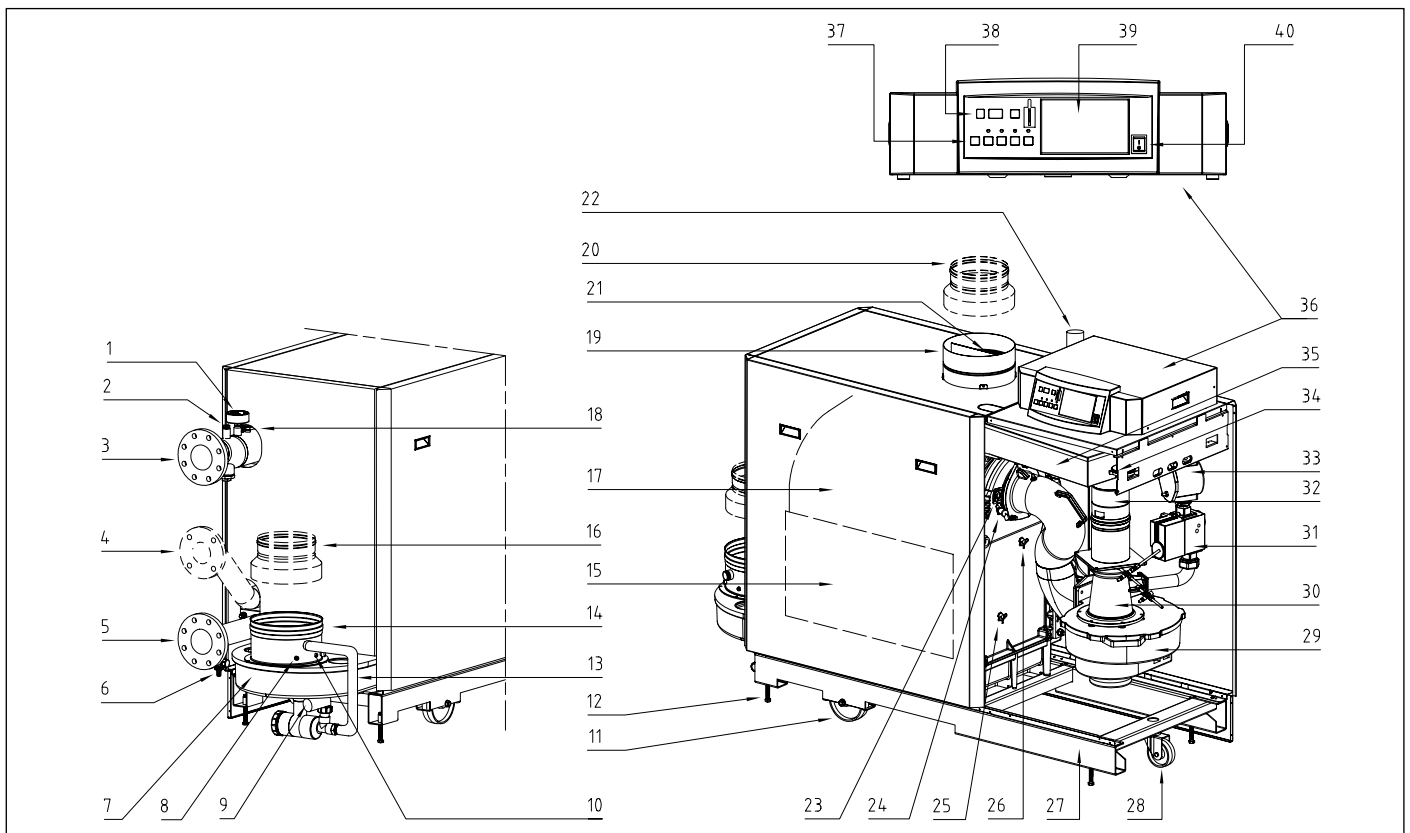

fig. 01 Cross-section Remeha Gas 310 ECO
A venturi (30) is placed on the inlet side of the fan (29), see fig. 01. On heat demand the fan starts to pre-purge. Combustion air is drawn into the boiler through the air inlet (19). The incoming air is mixed optimally in the venturi and later in the fan with the gas from the multiblock (31). The homogeneous gas / air mixture is brought to the burner by the fan. Depending on demand (under the dictates of flow/return sensor and other external/internal control inputs) the boiler output is controlled. The mixture is initially ignited by the combined ignition/ionisation probe (24), which monitors the state of the flame. The products of combustion in the form of hot flue gases are forced through the cast aluminium heat exchanger (17) transferring their heat to the system water (the flue gas temperature is reduced to approxi-